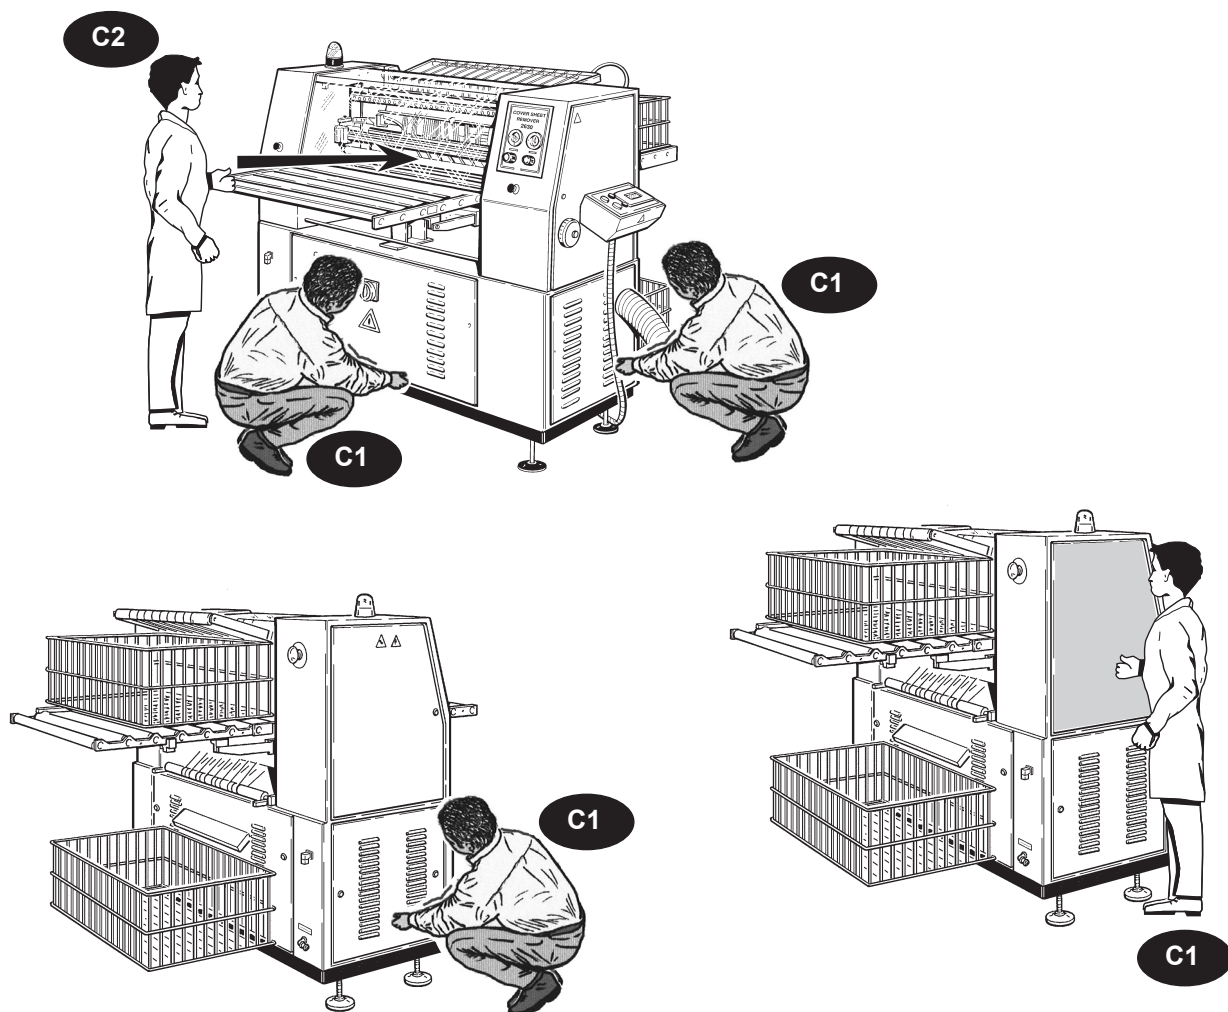

Fig. 013
1.11.c - Zone a rischio residuo (fig. 013)
1.11.c - Potential areas of risk (fig. 013)